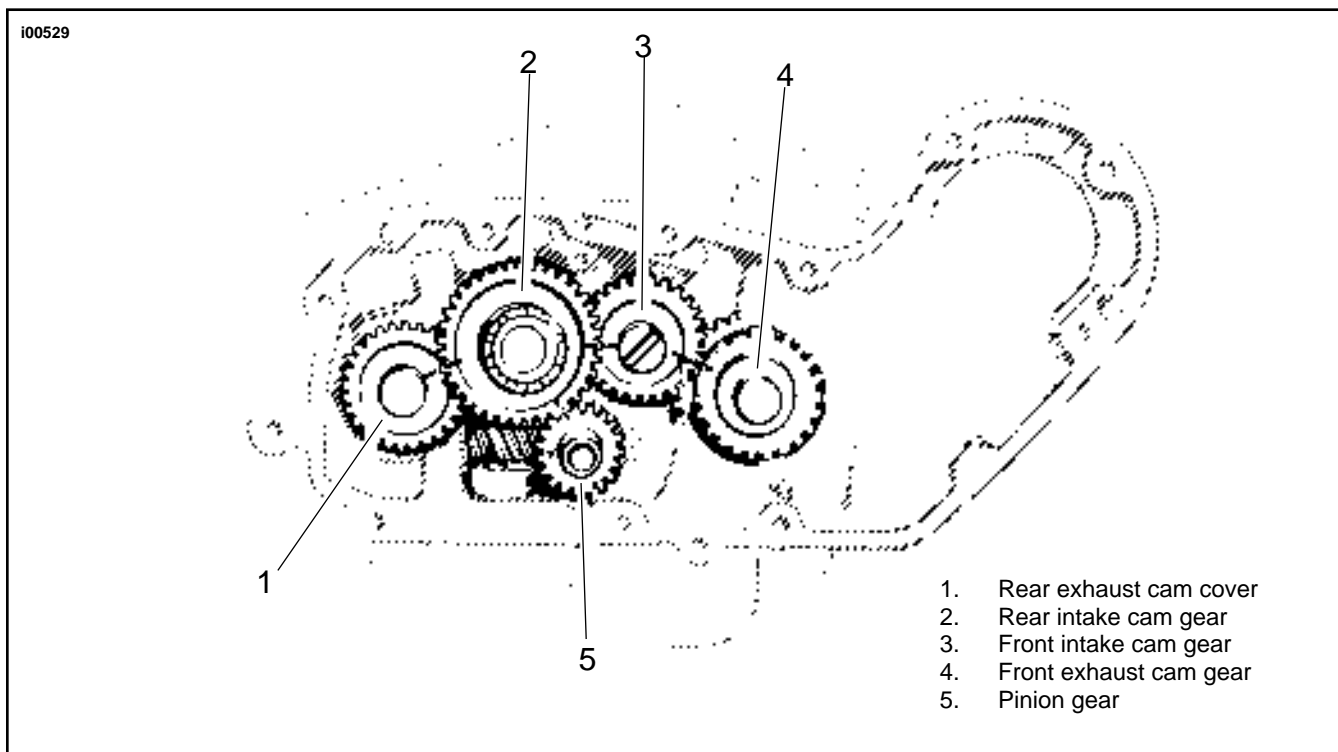

Figure 1. Timing Mark Alignment
9. See Figure 1. Rotate engine to align timing marks. Cams are numbered 1 to 4 from the rear exhaust (1) to the front exhaust (4). Remove camshaft (2). One at a time remove camshaft (1), (3), and (4) and replace with the appropriate camshaft from this kit. Be careful to maintain timing mark alignment. Install camshaft (2) from this kit last. Carefully check alignment of all timing marks.